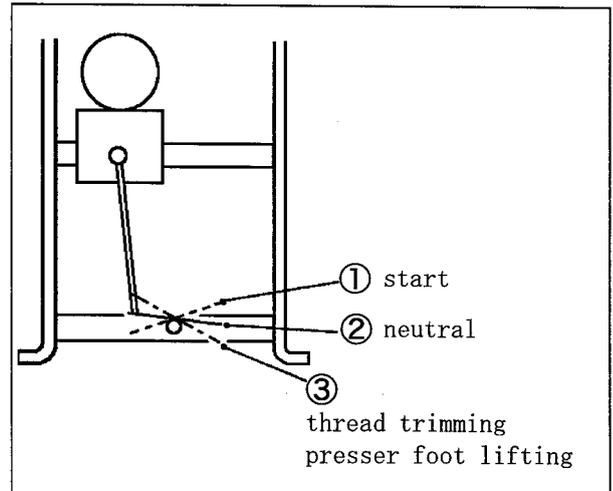

Fig. 13
- (1) Heel back the pedal to raise the presser foot.
(Fig. 13 ③)
- (2) Place the fabric under the presser foot and toe down the pedal. (Fig. 13 ①)
- (3) Release the pedal. (Fig. 13 ②)
- (4) Heel back the pedal. (Fig. 13 ③)
- (5) Release the pedal. (Fig. 13 ②)